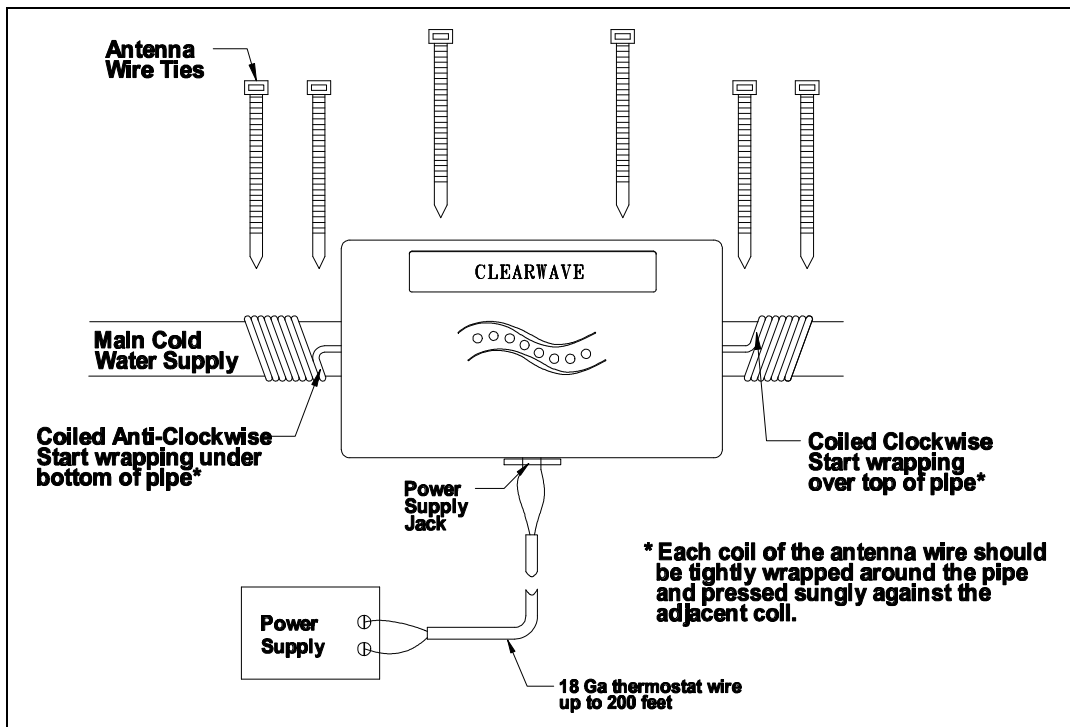
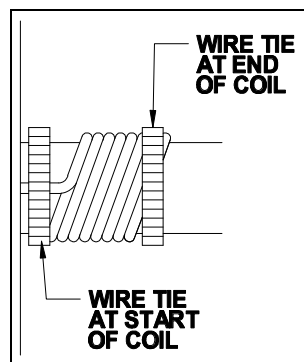
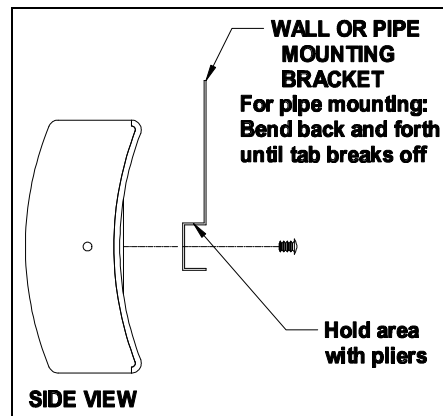

Figure 1
Figure 1A
Figure 2
1. One set of mounting brackets are provided, for mounting the ClearWave™ onto 1/2” to 1-1/2” water pipes or wall mounted near the selected pipe area. Mount the mounting brackets to the base of the ClearWave™ by using the screws provided. Mount the ClearWave™ onto the pipe with wire ties or to the wall with appropriate fasteners. (see Figure 1) For pipe mounting, the wall mount tabs should be removed from the mounting brackets. (see Figure 2)
The antenna wrap around the water pipe on each end of the ClearWave™ (see Figure 1). A minimum of seven fully wrapped coils of the antenna wire, with each coil wrapped tightly against the pipe and pressed snugly against each other is required for best results (see Figure 1A). The operation of the ClearWave™ and the antenna installation is not based on direction of water flow, but one antenna MUST be wrapped in a clockwise direction and the other wrapped in a anti-clockwise direction.
1. First, wrap the antenna onto the water pipe by securing the right antenna to the water pipe next to the ClearWave™ housing with a wire tie. Wrap the right antenna clockwise (over the top of the pipe first), keeping the antenna wire tight against the pipe and the preceding coil. Secure the end of the right antenna wire to the water pipe with a wire tie (see Figure 1A).